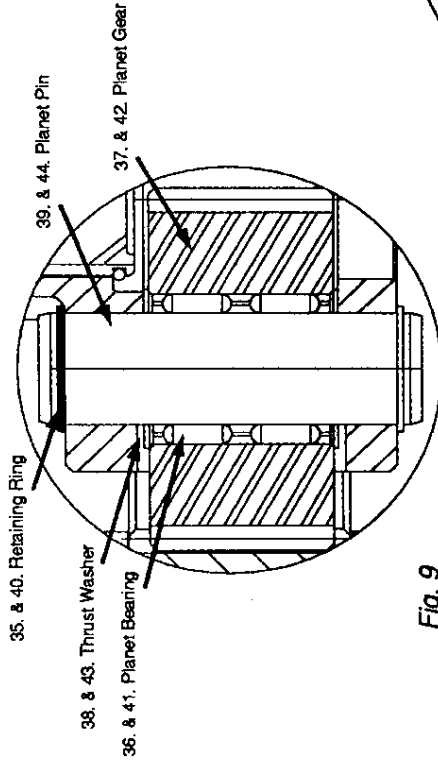
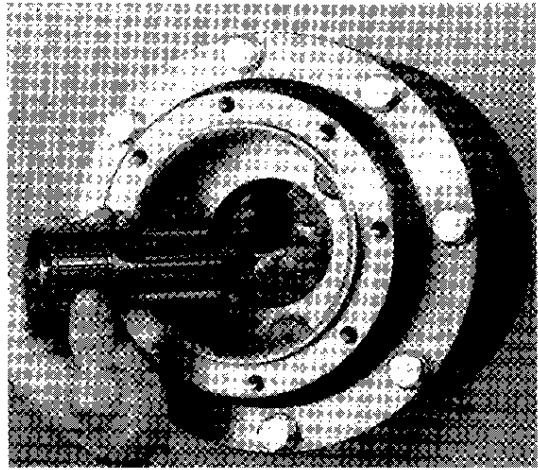

Fig. 9
Fig. 12
1. Lubricate planet bearings (36) and slip into planet gear (37). (Fig. 9)
2. Lubricate thrust washers (38), place one washer on each side of planet gear (37). Place planet gear and thrust washer in planet carrier (28). (Fig. 9)
4. Secure planet pin (39) with retaining rings (35) on each end of planet pin. (Fig. 9)
- Lubricate spline on intermediate gear (24), seat retaining ring (26) in groove between spline and gear. Stand intermediate gear on gear end, lay other retaining ring (26) on splined end, slide small planet carrier assembly spline onto splined end of intermediate gear (24). With appropriate tool, seat retaining ring (26) into groove at end of intermediate gear (24).
- Lubricate planet bearings (41) and press into planet gear (42). (Fig. 9)
- Lubricate planet pin (44) and insert into planet pin hole in planet carrier (20) from splined side of carrier. (Fig. 9)
- Lubricate thrust washers (43), place one washer on each side of planet gear (42). Place planet gear and thrust washer in planet carrier (20). Drive planet pin (44) through thrust washers and planet gear, into opposite planet pin hole in carrier housing. (Fig. 9 & 5)
- Secure planet pin (44) with retaining rings (40) on each end of planet pin. (Fig. 9)
24. Remove retaining rings (35) from ends of planet pins (39). (Fig. 9)
25. Support small planet carrier (27) spline side down and drive planet pins (39) out of planet carrier (27), from input side of carrier. (Fig. 9 & 5)
26. Remove small planet gears (37) and thrust washers (38) from small planet carrier (27). (Fig. 9)
27. Remove planet bearings (36) from small planet gears (37).
28. Remove retaining ring (26) from intermediate gear (24).
29. Remove intermediate gear (24) from small planet carrier (27). (Fig. 12)
30. Remove retaining rings (40) from ends of planet pins (44). (Fig. 9)
31. Support planet carrier (20) spline side down and drive planet pins (44) out of planet carrier (20). (Fig. 9 & 5)
32. Remove planet gears (42) and thrust washers (43) from planet carrier (20). (Fig. 9)
29. Turn unit over and support, shaft down. Lubricate intermediate gear and small planet carrier assembly, place gear in mesh with large planet gears. (Fig. 12)
30. Lubricate 'O' rings (29). Place one 'O' ring onto pilot of transition plate (22). Note: Check for sharp edges or burrs on pilot.